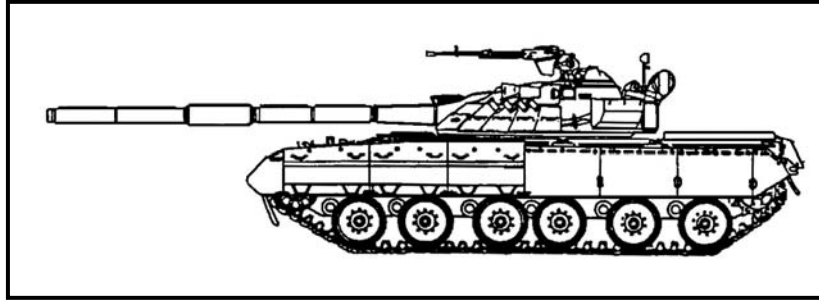

Figure H-4. Russian main battle tank, T-80U.
(4) ***Russian Main Battle Tank, T-80U*** (Figure H-4).